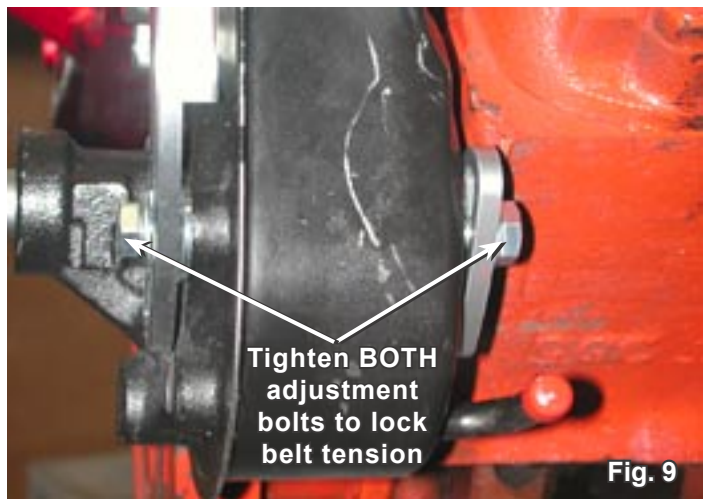

Fig. 9
8. Mount power steering pulley to pump shaft and secure with proper nut. Check power steering to crank pulley alignment. Install belt and adjust belt tension by pulling up on power steering pump. Belt tension is correct when there is no more than $\frac{1}{4}$ " play in the belt at mid point between the power steering pulley and the crank pulley. Lock the belt tension by tightening BOTH front and rear adjustment bolts with a $\frac{9}{16}$ " opened wrench (fig. 9).